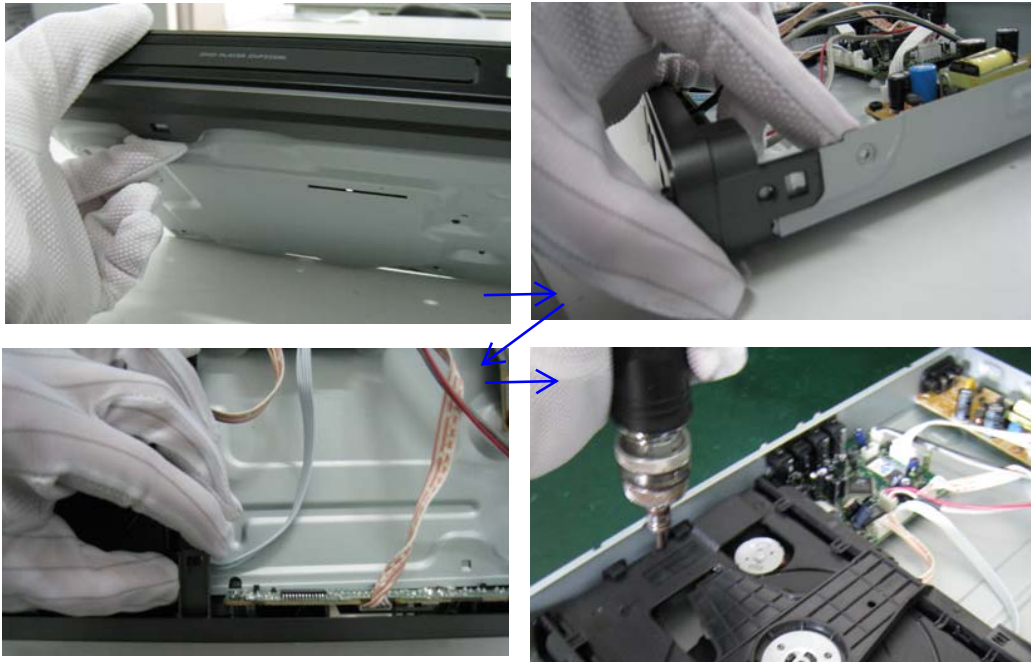

Figure 5
**Step5:** Dismantling Loader, disconnect the 3 connectors (XP2, XP3, XP4) aiming in the below figure, and remove 1 screw that connects the loader and the bottom cabinet. (Figure 5)